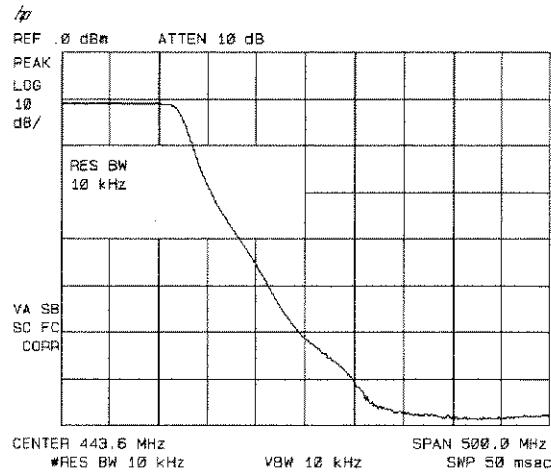

Figure 4-7. Decrease the Resolution Bandwidth to Improve Sensitivity
- Decrease the resolution bandwidth to increase sensitivity, and narrow the video bandwidth to smooth the noise. In Figure 4-7, the resolution bandwidth has been decreased to 10 kHz.